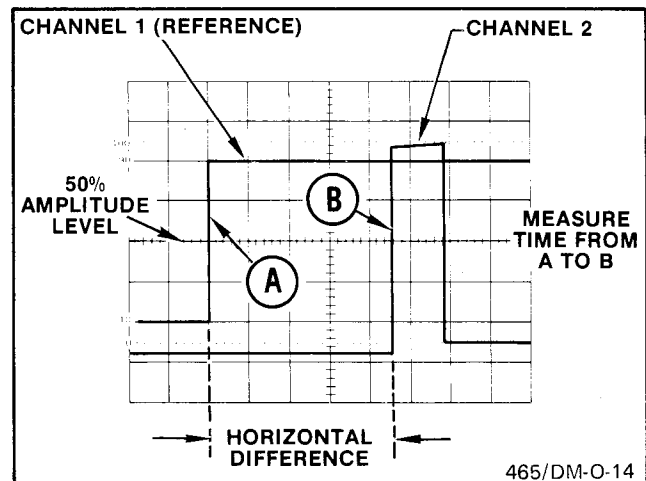

Figure 2-16. Measuring time difference between two pulses.
9. Measure the horizontal difference between the Channel 1 waveform measurement point and the Channel 2 waveform measurement point (see Figure 2-16).
EXAMPLE: Assume the SEC/DIV switch is set to 50 μ , and the horizontal difference between measurement points on the two waveforms is 4.5 divisions (see Figure 2-16).